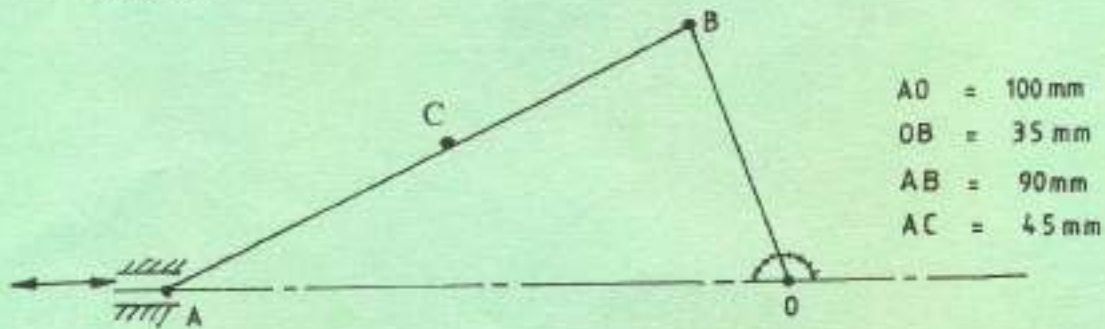

Fig. 4
4. (a) Figure 4 shows the layout of a crank mechanism in which A travels along a straight line as the crank OB rotates about point O. Draw the locus of point C for one revolution of crank OB.